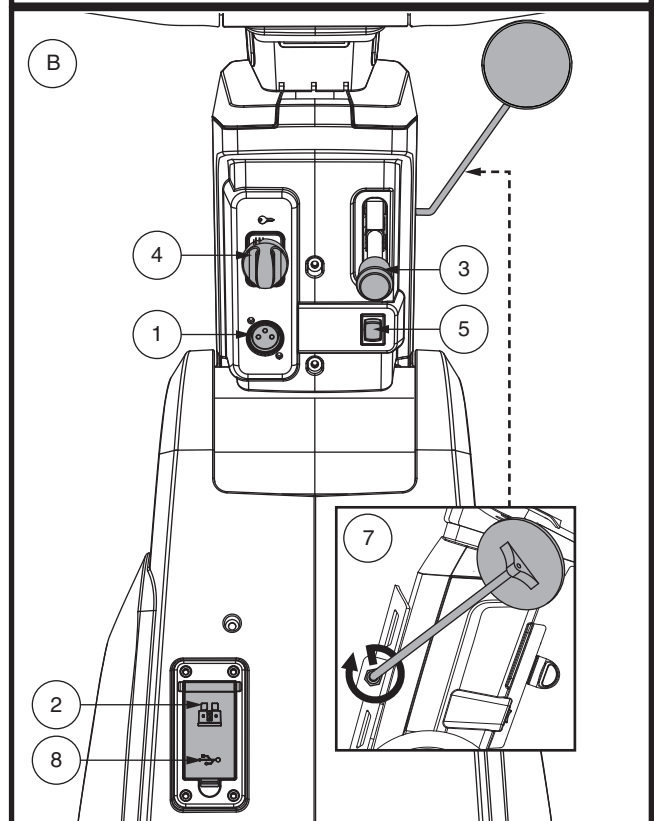

Figure 7. Lower Tiller Components
The off-board charger power cord plugs into this port during battery charging. The off-board charger port will be located on the tiller. See figure 7.
- Insert the key into the key switch and turn it clockwise to power up (turn on) your scooter. See figure 7.
This switch dictates which throttle control lever (left or right) will function. See figure 7.